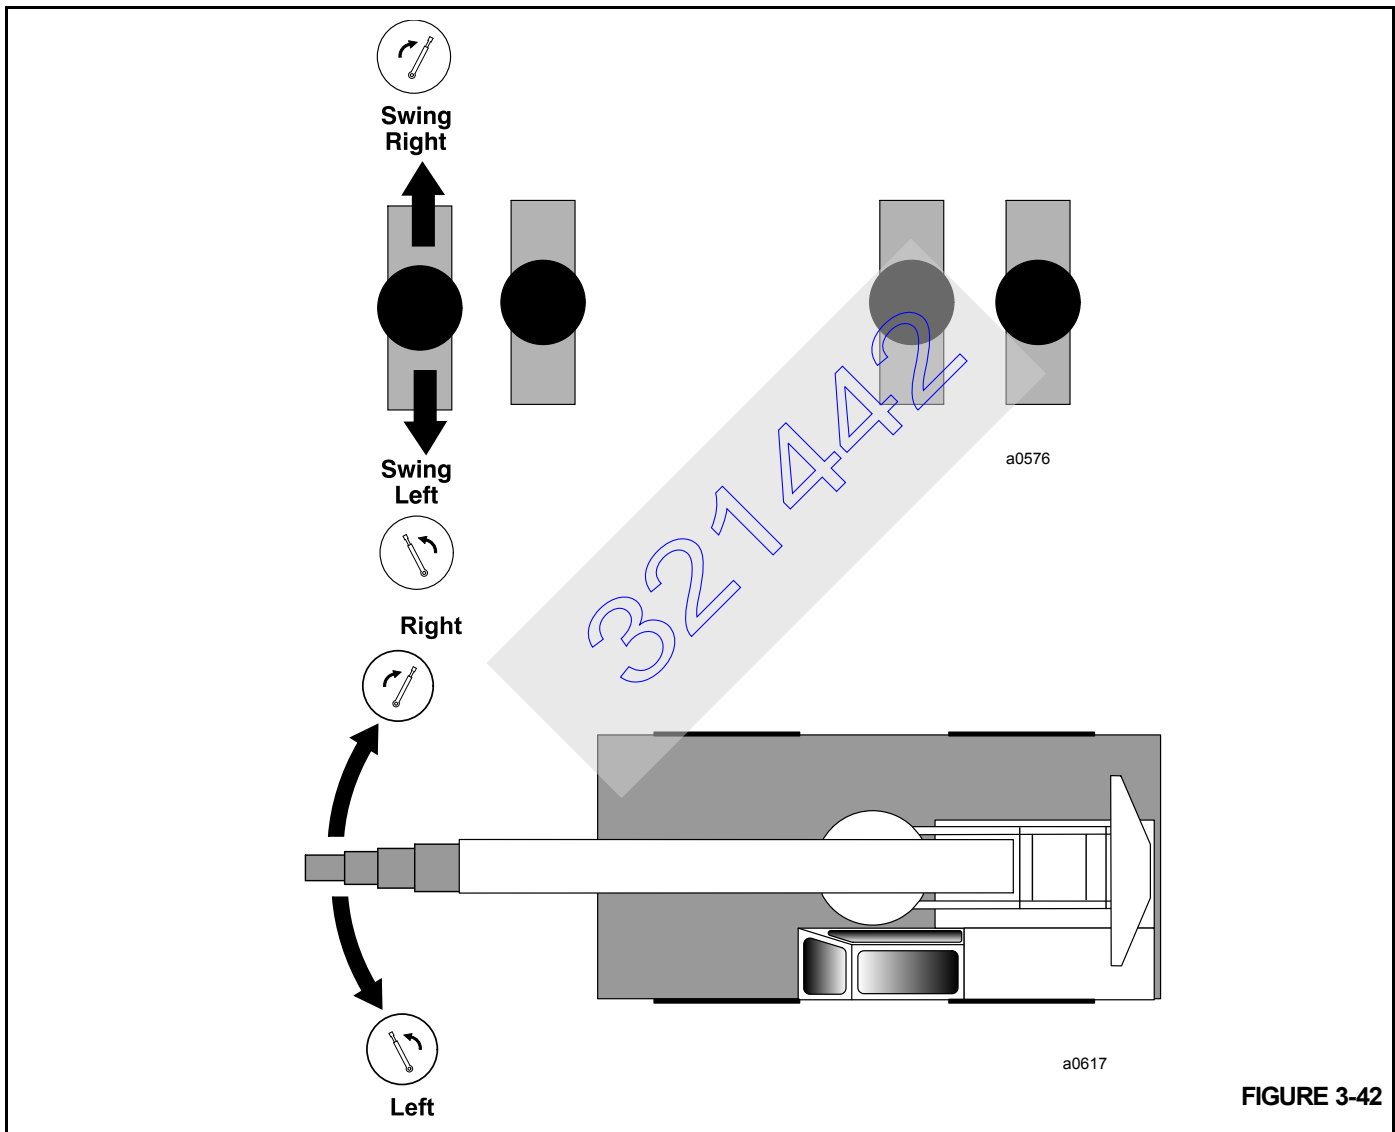

FIGURE 3-42
Press the accelerator pedal to increase the engine speed to maximum rpm. Slowly pull back on the swing control lever (Figure 3-42) until the desired swing speed is obtained. The further the control is pulled back the faster the mast will rotate.
Press the accelerator pedal to increase the engine speed to maximum rpm. Slowly push forward on the swing control lever (Figure 3-42) until the desired swing speed is obtained. The further the control is pushed forward the faster the mast will rotate.
**NOTE:** Do not let the drop block touch the boom head. An automatic cutout device is installed on this crane to inhibit the drop block from being pulled into the boom head. When the drop block touches the anti-double blocking bracket (Figure 3-42) hanging from the boom head, a switch is activated and the hydraulic flow to raise the drop block is stopped. An alarm will sound, warning the operator that the block has touched the bracket. The operator must then lower the drop block to stop the alarm and allow for other boom functions.